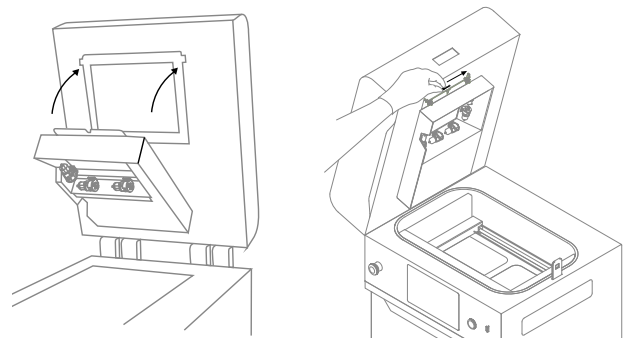

Fig. 13.54 Reinstall the heating module.
14. Lift the heating module (fig. 13.54).
15. Secure it with the captive screw/split pin (fig. 13.54).